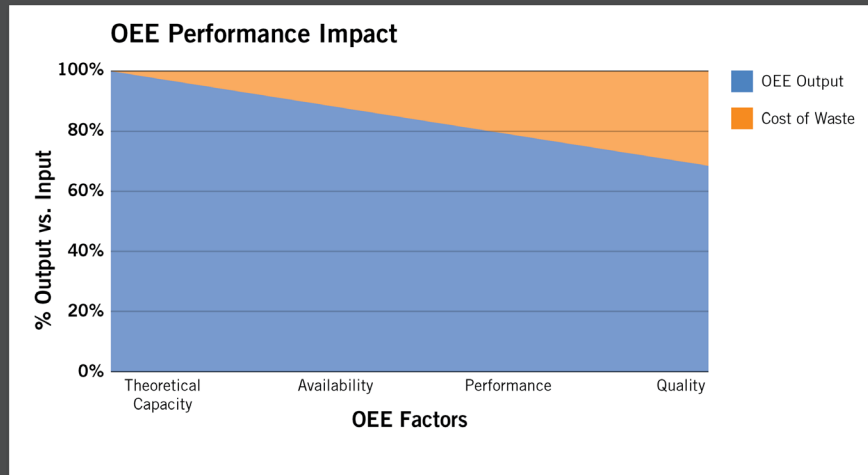

Figure 2 - OEE Output, Cost of Waste
- Cost of Waste: from the losses due to OEE erosion (Figure 2)